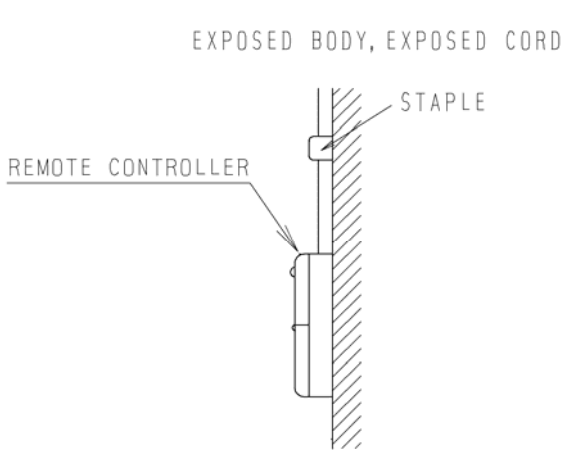
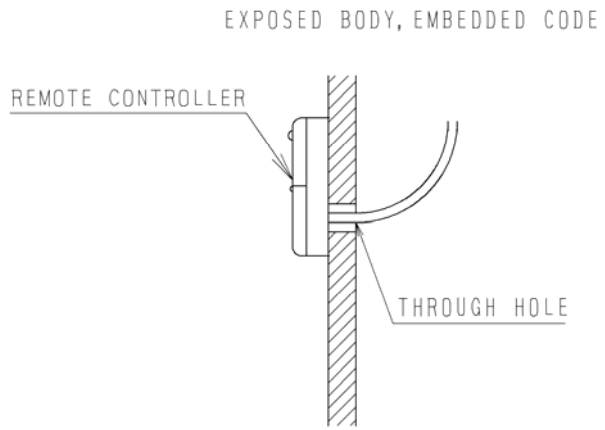

Fig.5-20
Fig.5-21
4. If the control wire between the wired remote controller and the indoor unit is surface-mounted, use 1# metallic pipe and make matching recess in the wall (refer to Fig. 5-20); If concealed installation is adopted, 1# metallic pipe can be used (Refer to Fig. 5-21).